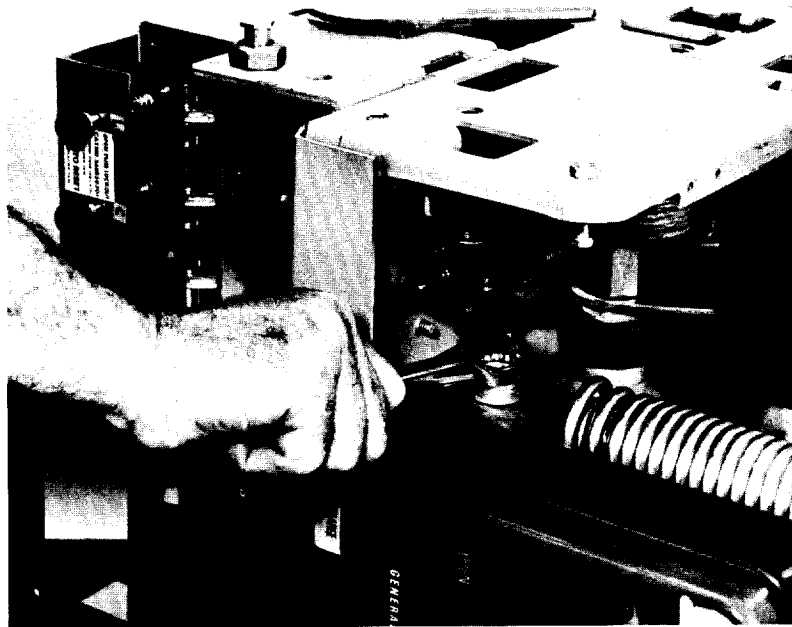

FIG. 11
8. Remove the $\frac{3}{8}$ -16 bolt and lockwasher on the crank shaft, (see figure 11) and lift the old spring assembly out of the breaker.